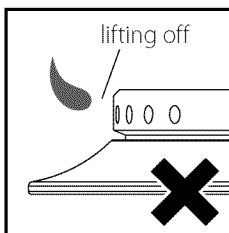

figure 3
- With the product isolated from the electrical supply, ignite the burner using a match. The flame will probably be lifting off the burner (see fig. 3).